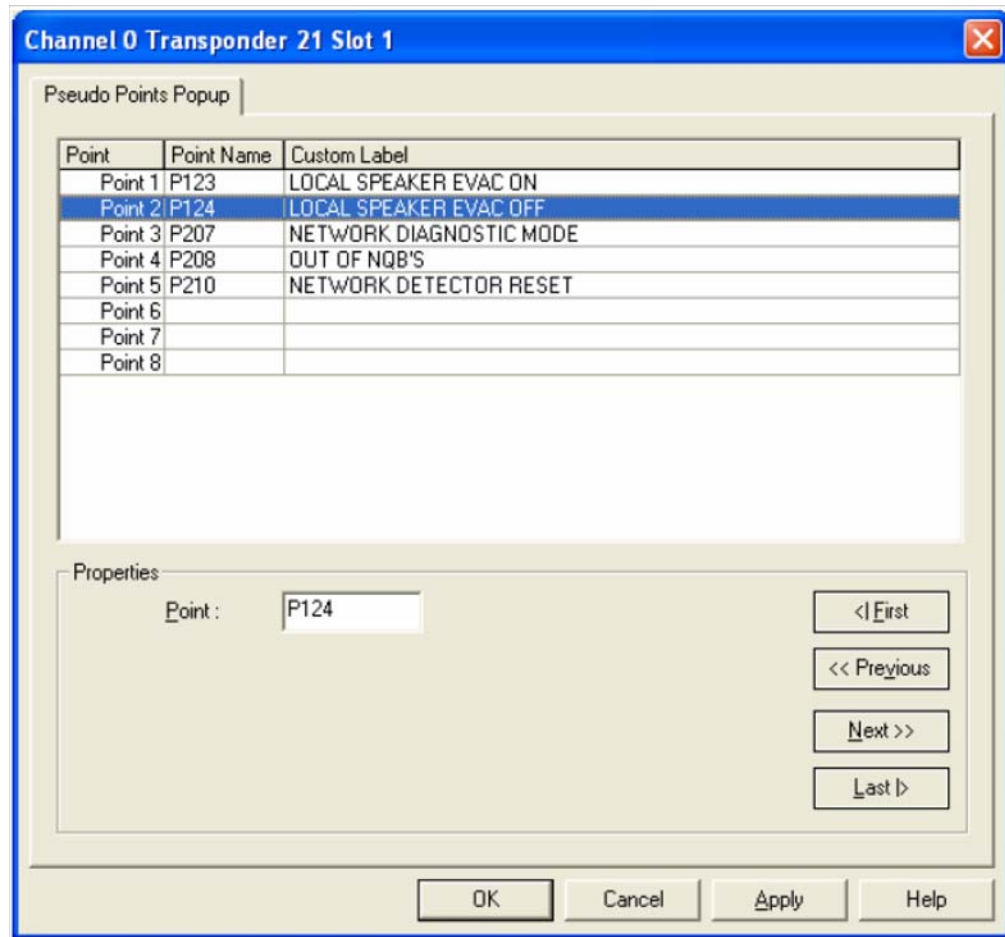

Figure 6-42. Pseudo Point Editing
5. To edit a slot, click on the Edit Slot Points button or double-click its transponder's slot. See Figure 6-42.